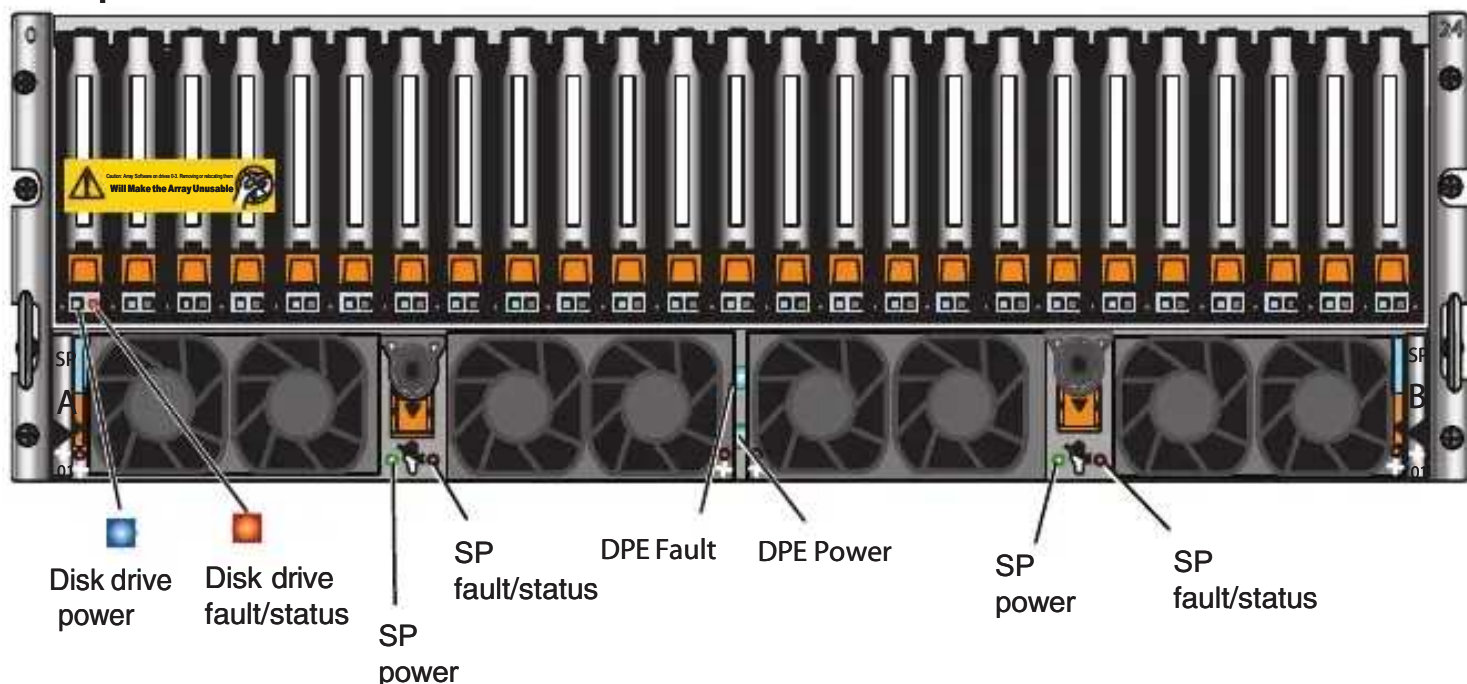

Figure 11 DPE Front LEDs
1. Verify that the DPE Power LED located on the front is solid blue and the DPE fault/status is off as shown in Figure 11.
2. Verify that the SP Power LEDs on both SP A and SP B are solid green and the SP Fault LEDs are off as shown in Figure 11.